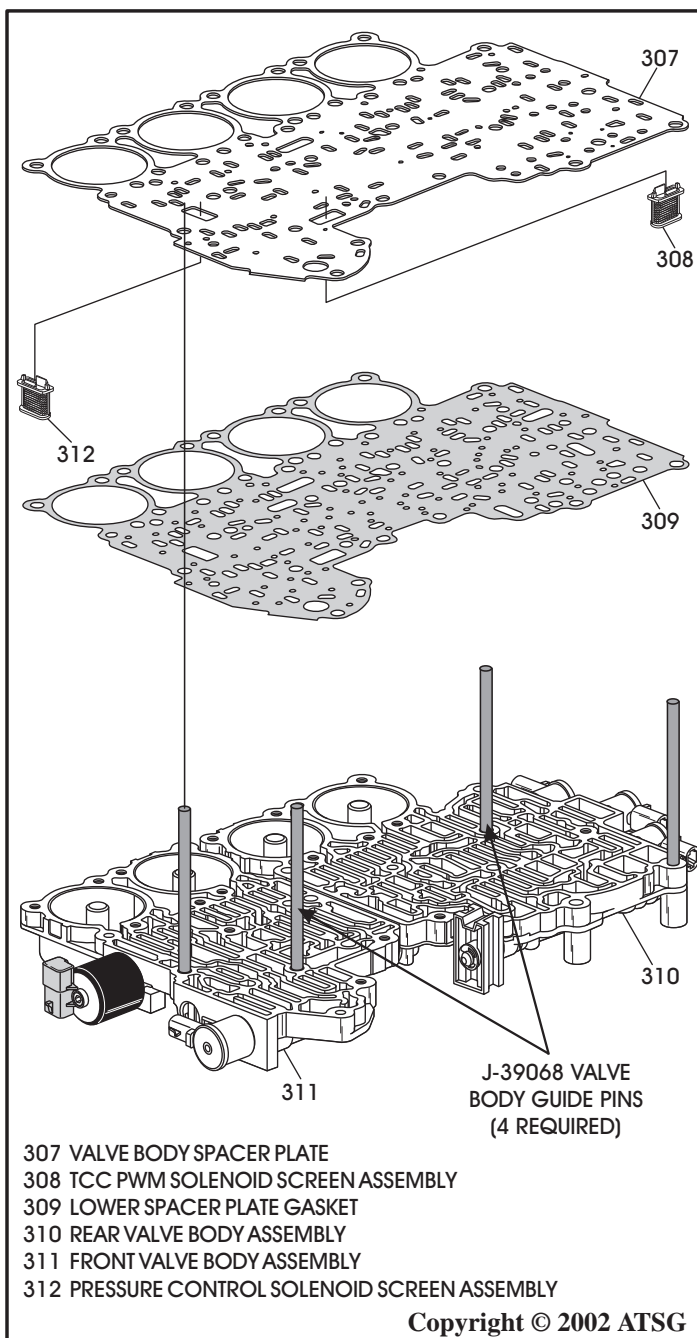

Figure 166
19. Lay both front and rear valve body assemblies on a flat work surface **exactly** as they are layed out in Figure 166.
20. Install the four J-39068 guide pins in locations shown in Figure 166.
21. Install two new screens into the spacer plate in locations shown in Figure 166.
22. Install lower spacer plate gasket over the guide pins as shown in Figure 166.
23. Install spacer plate over guide pins, as shown in Figure 166.